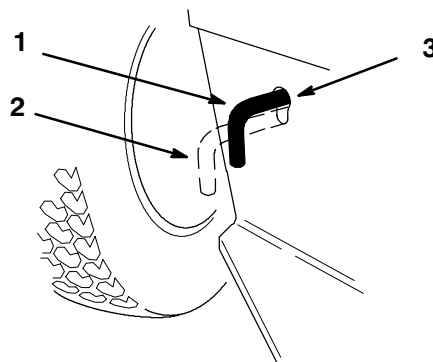

Figure 16
2. Move the drive control rod to the "PUSH" position. This disengages the drive system and allows the wheels to turn freely (Fig. 16).
1. Move the drive control rod to the "OPERATE" position (Fig. 16).